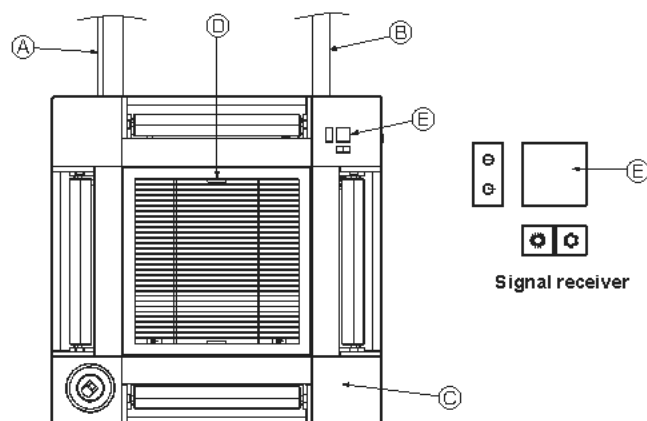

Fig. 10-17
10.5. Installing the intake grille (Fig. 10-17)
- ① Refrigerant piping of the main unit
- ② Drain piping of the main unit
- ③ Corner panel
- ④ Position of the levers on the intake grille when sent from the factory.
- ⑤ Receiver